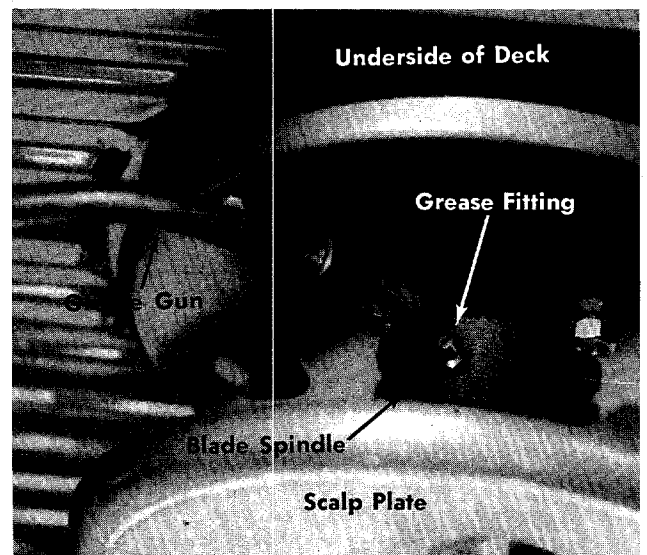

FIGURE 26. INITIAL LUBRICATION OF BLADE SPINDLE ASSEMBLY
- Blade Spindle Assembly—The blade spindle assembly is equipped with a grease fitting. Use grass discharge chute for access to the fitting located under the deck. Use multi-purpose grease. **Lubricate PRIOR to initial use and every 25 hours thereafter.** See figure 26.